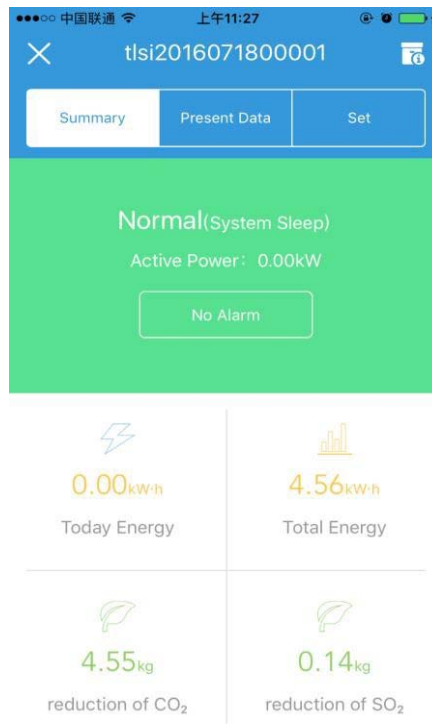

Figure 5
3. Confirm the information and click on the Connect button, as shown in Figure 4. Wait for APP connection and recognition, as shown in Figure 5.